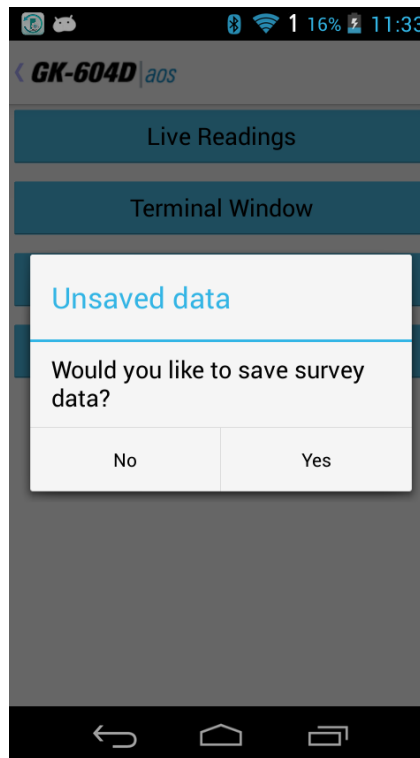
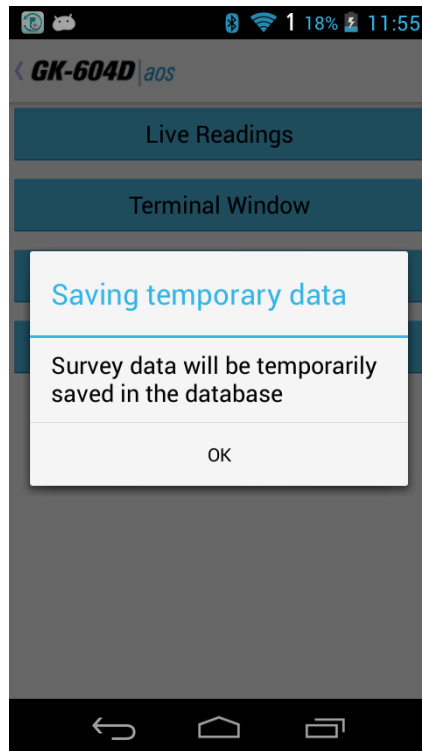
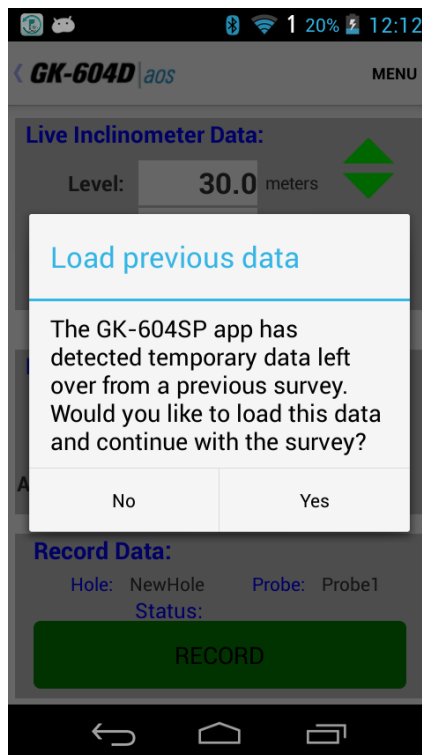

Figure 31 - Unsaved Data Prompt
Figure 32 - Saving Temporary Data
Figure 33 - Load Previous Data Prompt
- At any point you can scroll the 'Level' using the green up and down arrow buttons on the screen and view data stored and checksums ("Data History:" section of the screen). When done taking readings, tap "< GK-604D|aos" to dismiss the screen. The application will detect if readings have been recorded and if so, an opportunity to save the readings (see Figure 31) will be presented to the user.
- Even if "No" is selected from the Unsaved Data Prompt (see Figure 31), the readings will be saved to a temporary database table and can be restored the next time "Live Readings" is entered (see Figure 32 and Figure 33).
- If "Yes" is selected from the Unsaved Data Prompt (see Figure 31), then the readings will be saved to the database and the survey will be saved with the name given to it in the Survey Metadata Settings (see section 3.2.1.1, Survey Metadata topic). If no name was entered in the Survey Metadata Settings, the survey will be saved using a 3-digit numerical suffix combined with the "Hole" name. For example if there was 4 previous surveys saved for a hole with the name of "HL123\_Dam75", the new survey would be named: "HL123\_Dam75\_005".